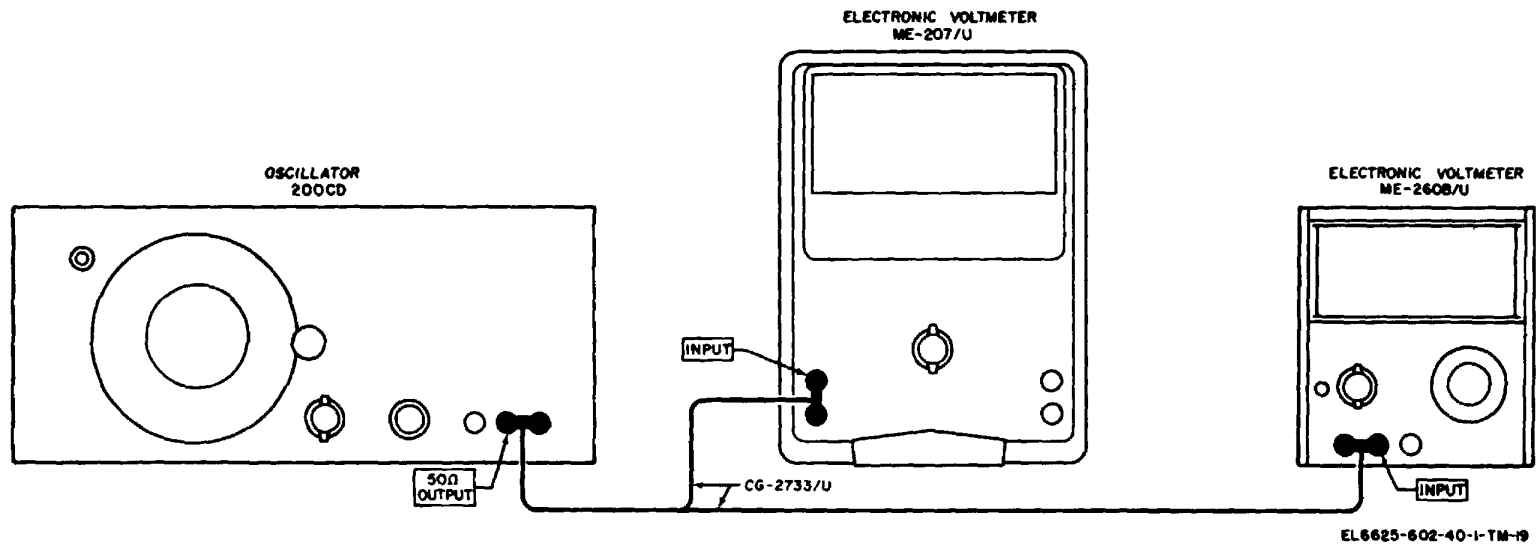

Figure 4-9. Voltmeter, Electronic ME-260B/U high frequency response calibration connections
(1) Remove the voltmeter from the carrying case.
(2) Connect the oscillator to an ME-207/U and to the ME-260B/U (fig. 4-9).
(3) Set the oscillator RANGE switch to X10 and the frequency to 400 cps.
(4) Adjust the oscillator AMPLITUDE control until the ME-207/U indicates .001 volt.
(6) Set the voltmeter RANGE VOLTS DB switch to .001 volt.